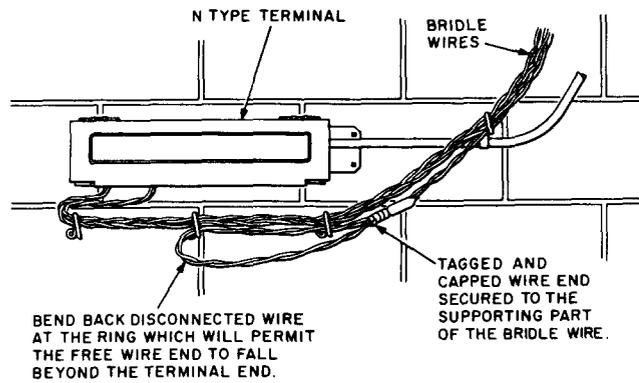

Fig. 6—N-Type Terminal Wall Mounted
- (b) Horizontally Mounted Terminals: Dispose of disconnected drops in the manner described in 7.02 for strand mounted terminals. The completed operation is shown in Fig. 6.